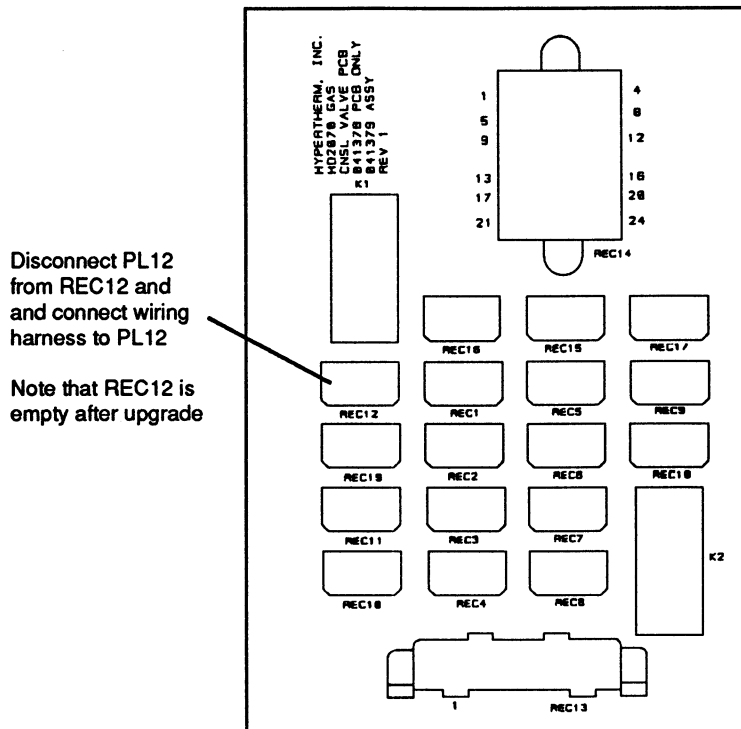

Figure 7 Wire Harness Connection to PL12 at Gas Valve PCB A8
5. At gas valve PCB A8, locate plug/receptacle PL12/REC12 (Fig. 7).